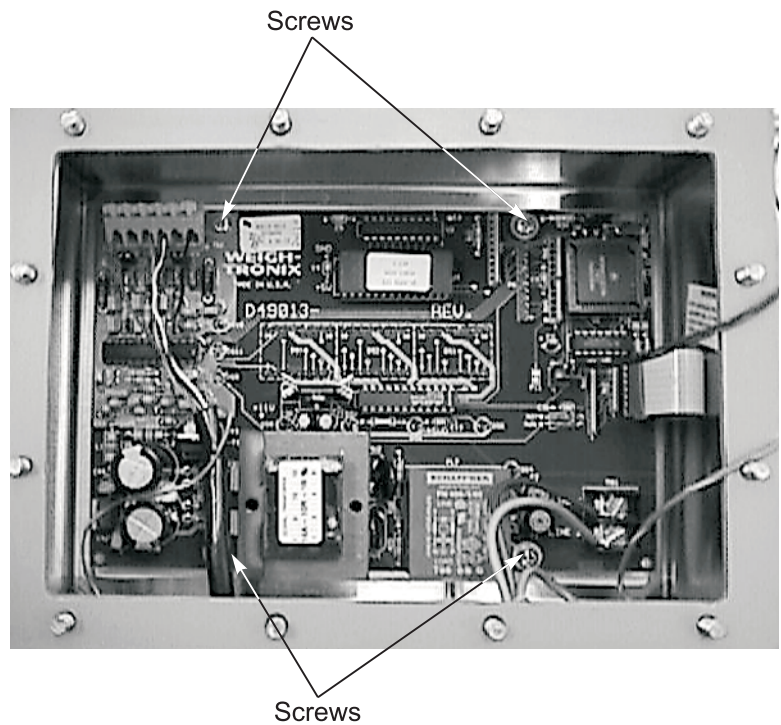
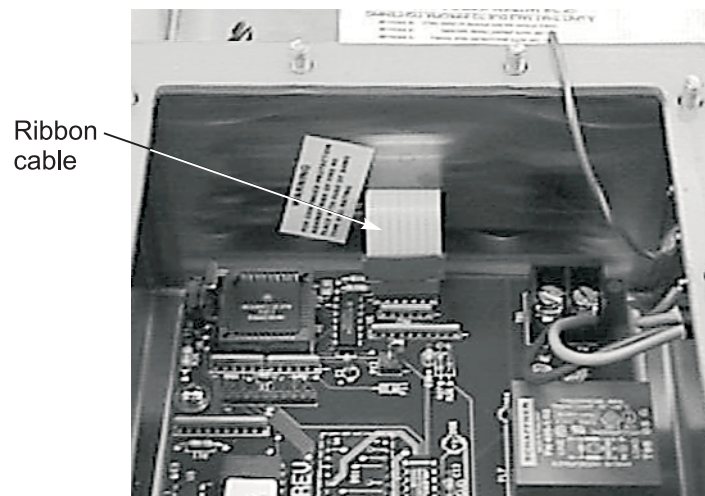

Figure 13
Figure 14
3. To remove the pc board, remove the four screws holding down the pc board shown in Figure 13. Disconnect the ribbon cable shown in Figure 14 before removing the pc board from the case.